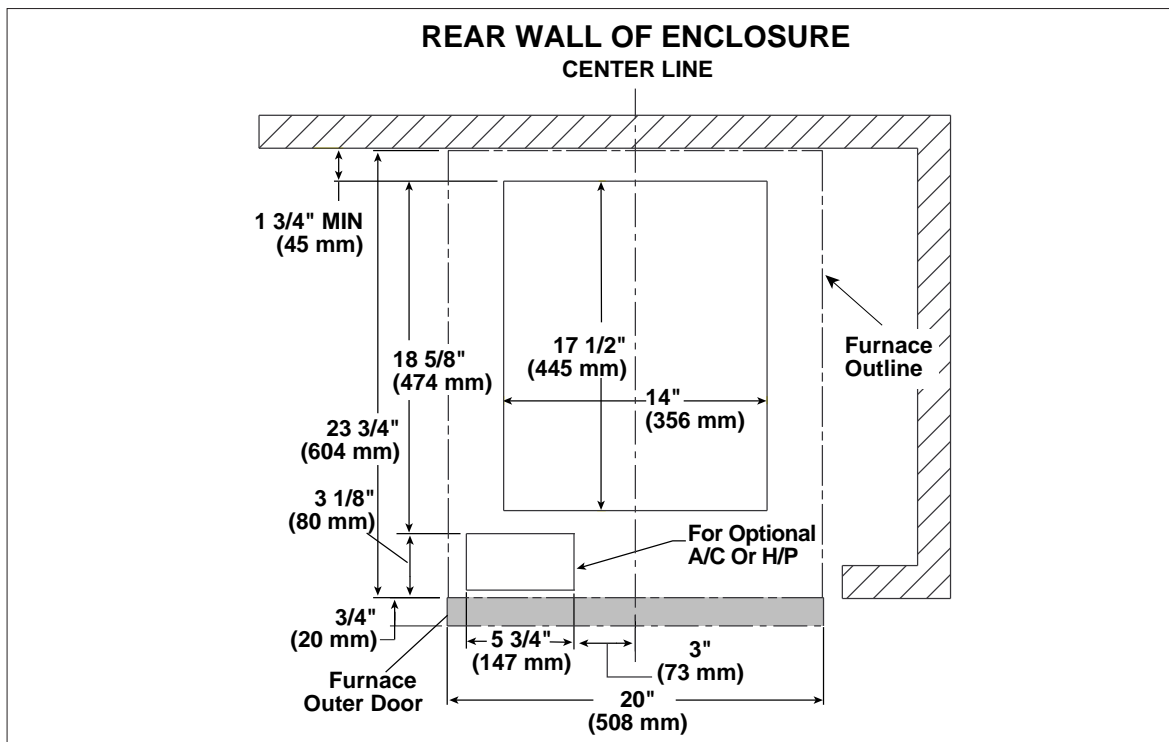

Figure 17. Upflow Floor Cutout Locations (nominal dimensions)
- a. Mark floor opening(s) as shown in Figure 17. Provide minimum clearances at rear and left side walls of closet for installation of furnace and wiring.